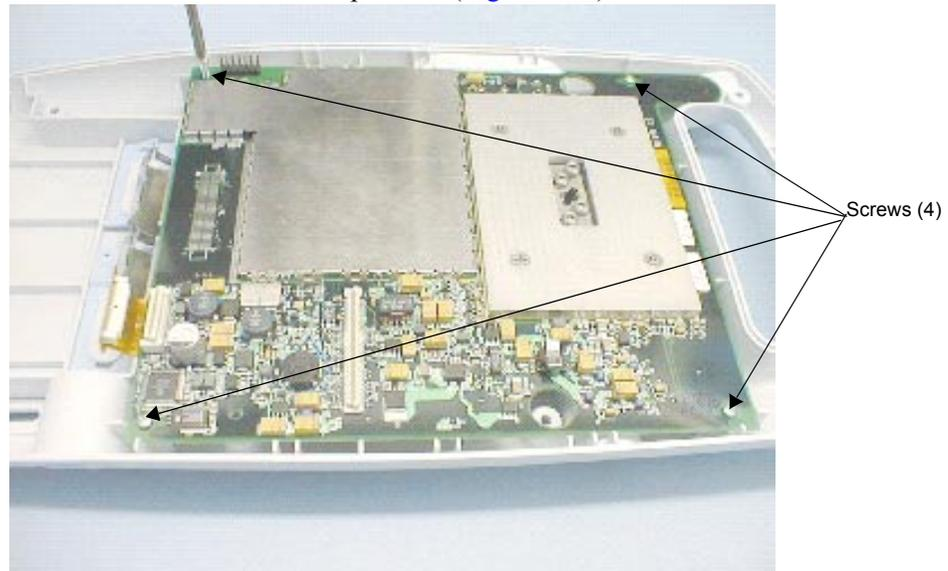

Figure 7.21 Securing the Main PCBA to the Bottom Housing
2. Secure the four screws that connect the Main PCBA to the bottom housing (Figure 7.21). Torque the screws to 3.6 in./lb (0.4 newton meter).